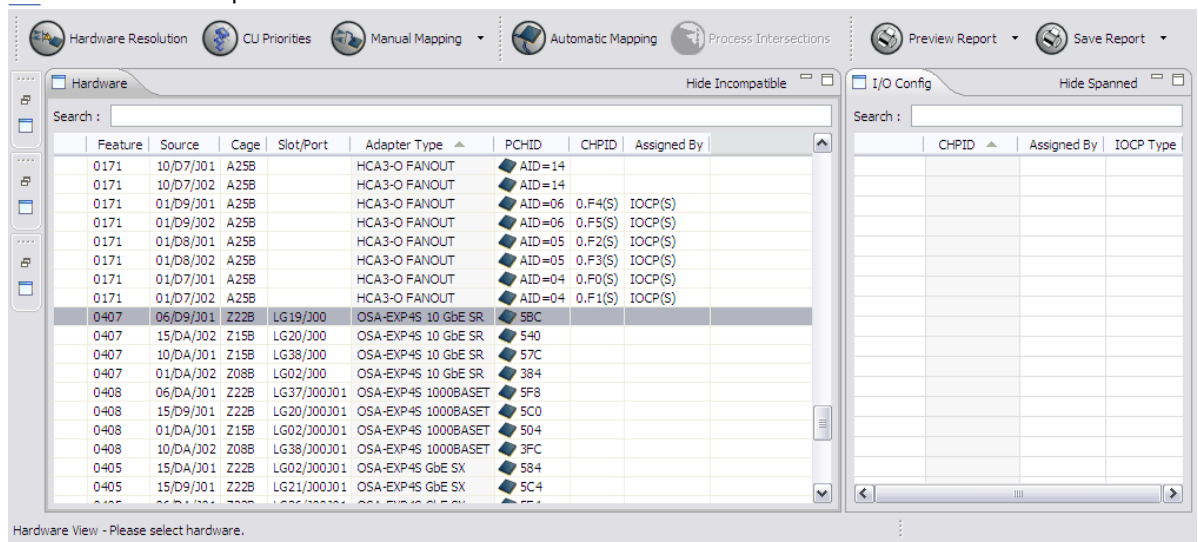

*Figure 107. Manual Mapping view – Hardware pane and I/O Config pane*
You perform manual mapping mainly in the Hardware pane and the I/O Config pane of the Manual Mapping view. Figure 107 on page 88 shows these panes.
2. Select the target row containing the PCHID to which you want to map one or more CHPIDS. Figure 107 on page 88 shows the CHPIDs in the I/O Config pane.